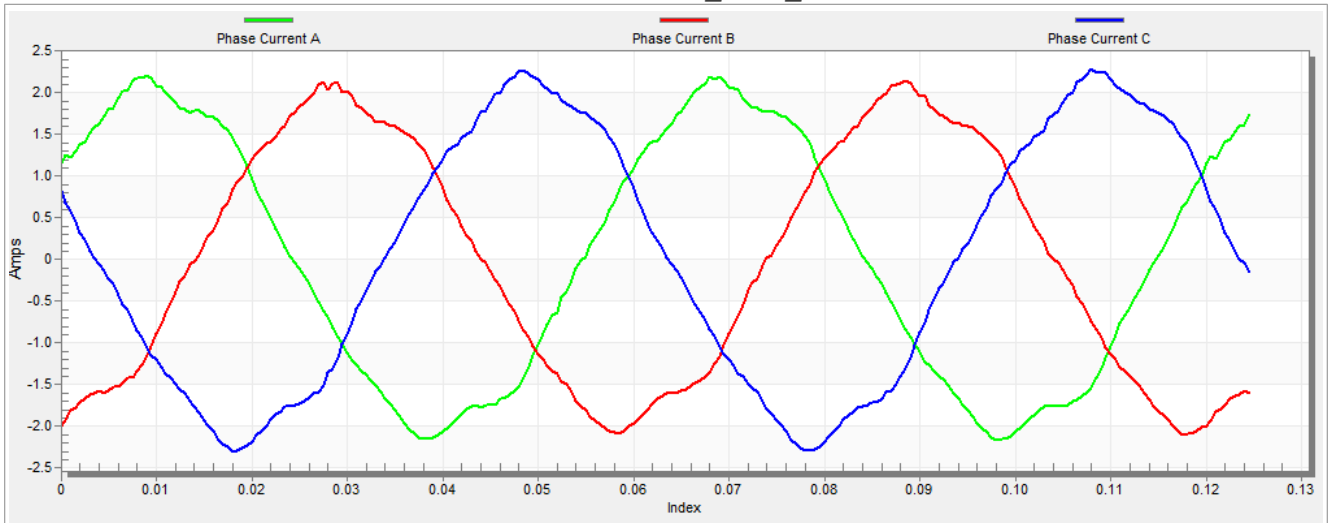

Figure 27. Phase currents
5. The optimal ratio for the V/Hz profile can be found by changing the V/Hz factor directly using the "M1 V/Hz factor" variable. The shape of the motor currents should be close to a sinusoidal shape (Figure 27). Use the following equation for calculating V/Hz factor: